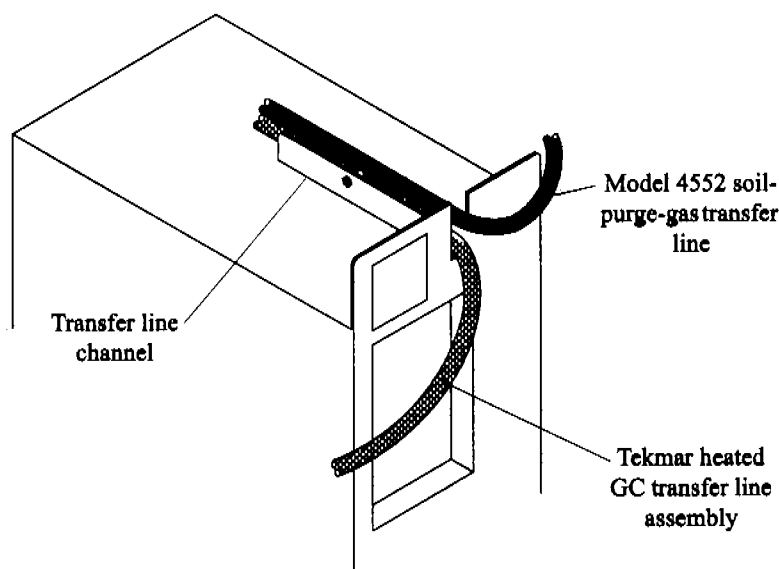

Figure 3.13. Routing the soil-purge-gas transfer line
4. Insert the soil-purge-gas transfer line assembly's free end into the Tekmar 3000 back and fit it into the Tekmar 3000 transfer line channel. The Model 4552 line rests on the top of the Tekmar 3000 GC transfer line (Figure 3.13).